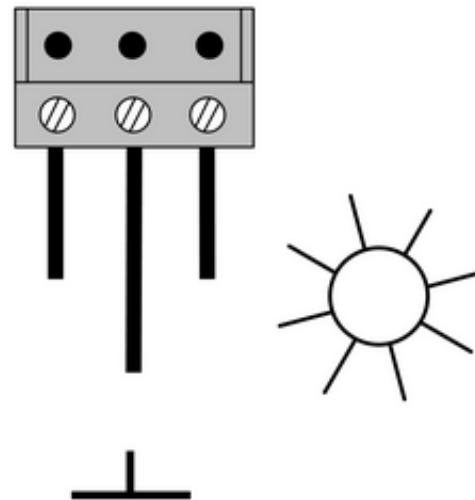

Figure 6: Connection to the terminal block
- Connect sensors as shown in connection diagram (figure 6).